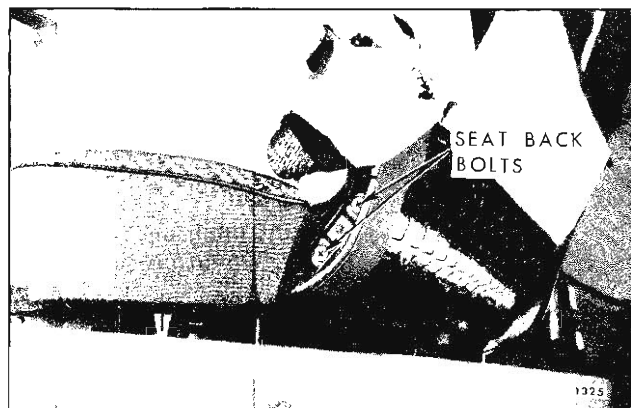

Fig. 5H3—Front Seat Back Attachment
3. If left adjuster is being replaced, remove adjuster control knob (Fig. 5H1).
5. Remove adjuster-to-seat bottom frame front and rear attaching bolts and remove seat adjuster from seat assembly. (Fig. 5H1).